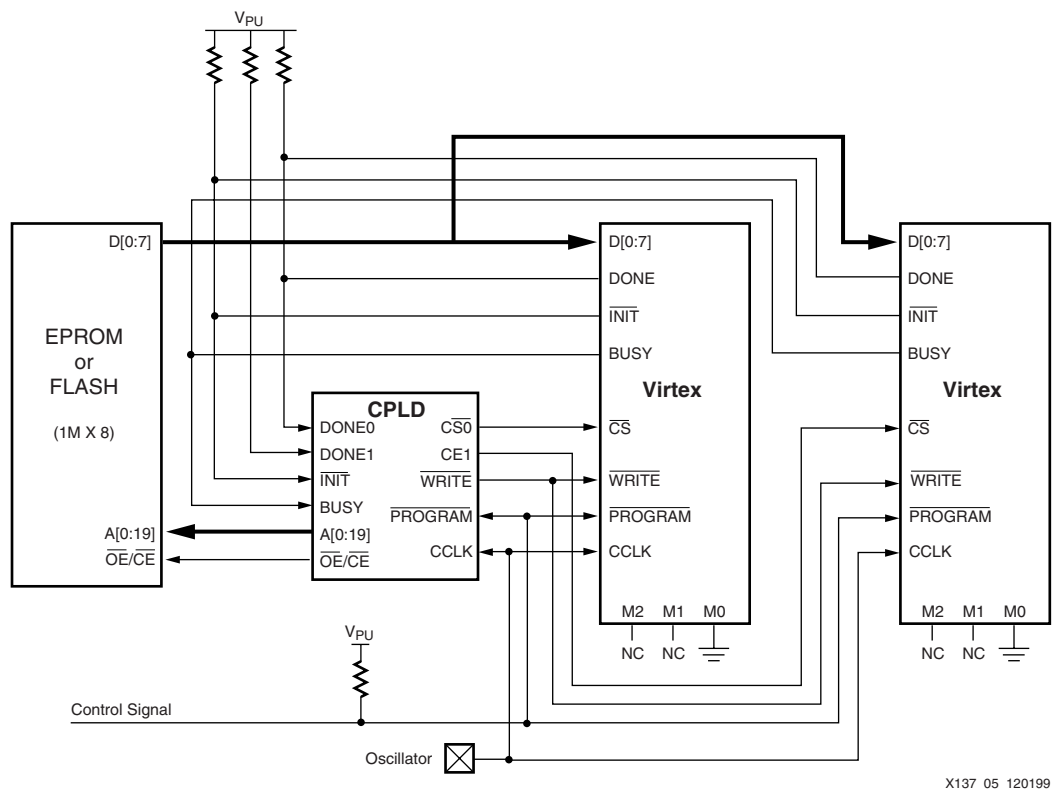

Figure 3-6: Configuring Virtex-II from Parallel EPROMs
- XAPP137: *Configuring Virtex FPGAs From Parallel EPROMs With a CPLD* (www.xilinx.com/apps/xappsumm.htm#xapp137) describes an architecture that configures one or more Virtex-II devices using the Slave SelectMAP mode. See Figure 3-6 for an example of FPGA configuration using a CPLD and a parallel EPROM.